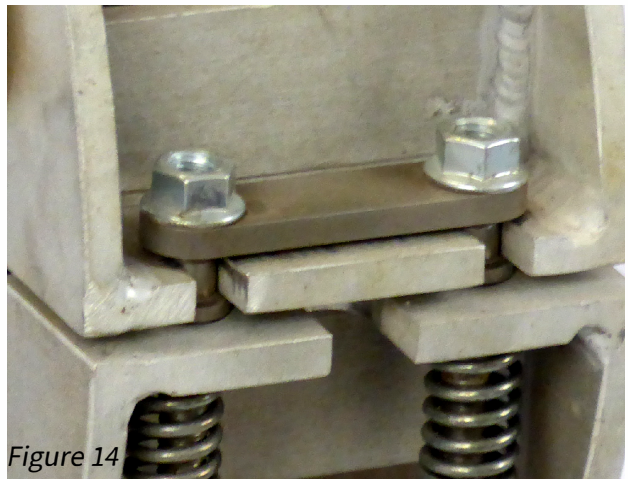

Figure 14
5.9 Although the correct depth control disc should be fitted verify this by taking a measurement to the edge of the cutting disc as shown in Figure 14. This measurement should be slightly less than the measurement taken from the host main.